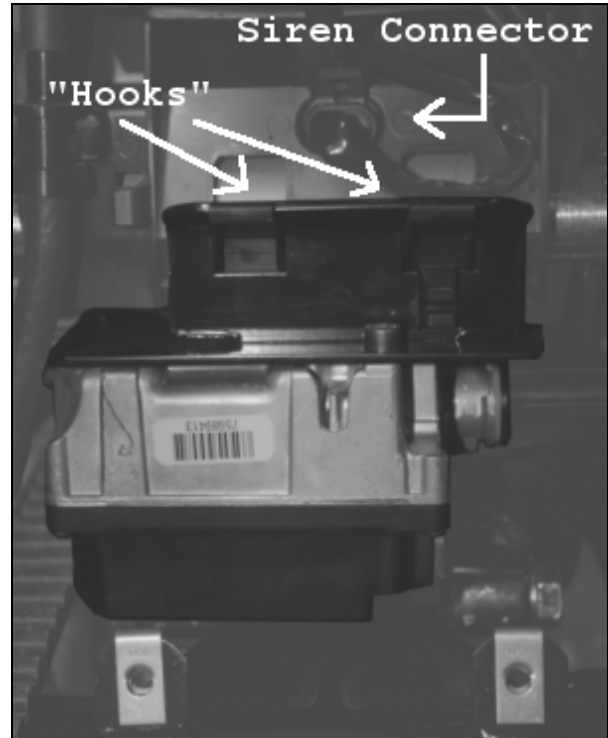

Figure 3. Cruise Control Module Installed
- See Figure 3. Unplug security siren connector from holder, and remove harness from electrical bracket (you will reposition this later). Position cruise control module bracket on motorcycle such that the top mounting slots fit over the security siren "hooks" on electrical bracket. The lower two cruise control module bracket bolt holes will line up with holes in the transmission casting. Position nut retaining plate on top of transmission casting over the two holes. Apply liquid thread lock to provided 1/4" bolts
- Secure CCWH to main circuit breaker wire harness using supplied cable ties. See Figure 3 – CCWH is visible to right of cruise control module.